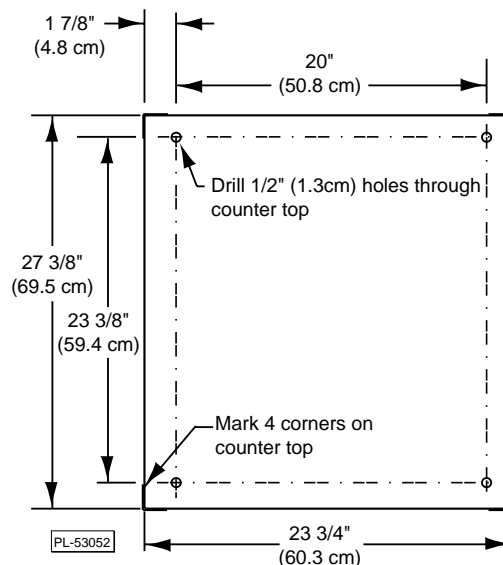

Fig. 1
2. Remove the steamer and drill  $\frac{1}{2}$ " (1.3 cm) holes as indicated in Fig. 1.